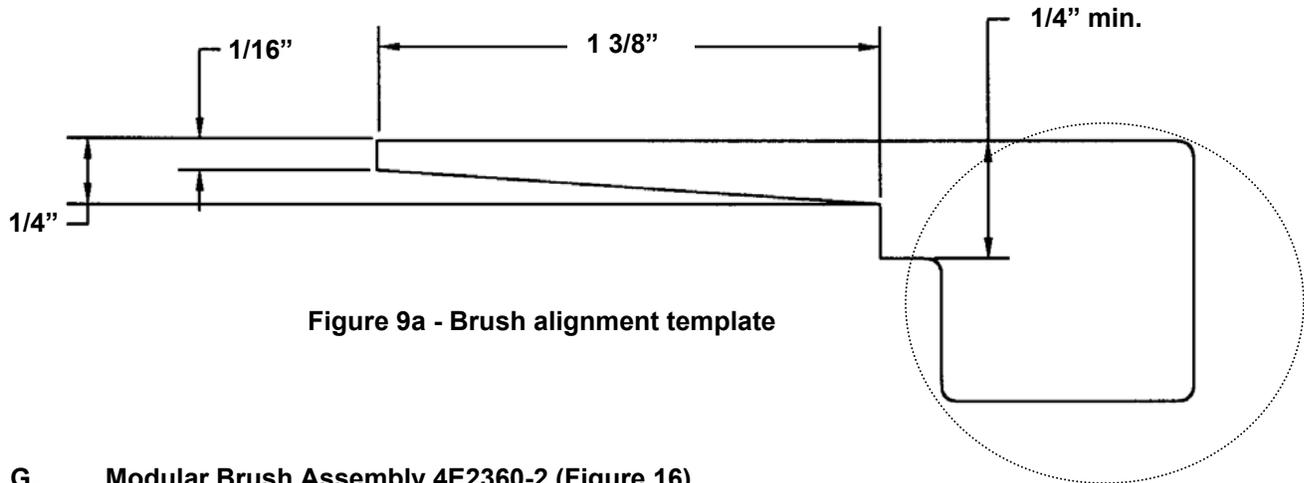

Figure 9a - Brush alignment template
2. A template can be devised to facilitate brush alignment per Figure 9a. Only critical dimensions shown. Portion of template within dotted circle serves as a handle to grasp the template. It can be fabricated to shape and dimensions desired.